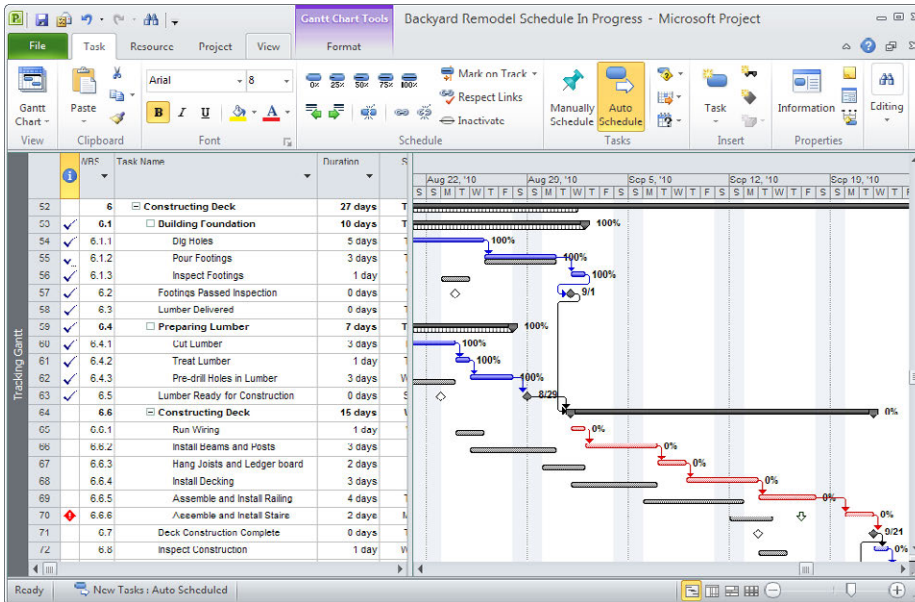

FIGURE 13-1 The Tracking Gantt view displays the critical path and includes taskbars for the baseline so you can compare actual progress to your plan.
- **Display the critical path and the baseline** The Tracking Gantt view displays gray taskbars for your baseline schedule (as shown in Figure 13-1), blue taskbars for noncritical tasks in your current schedule, and red taskbars for critical path tasks in your current schedule.